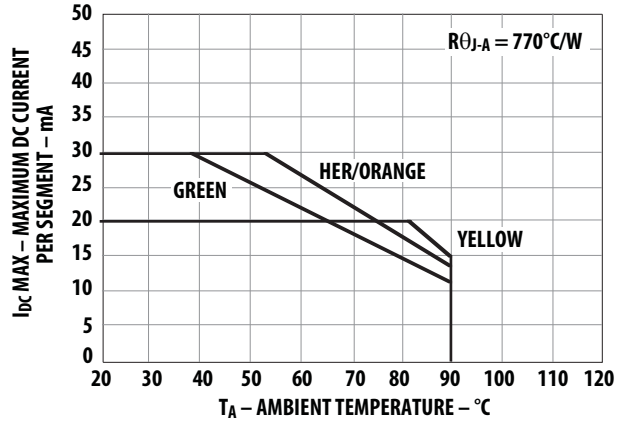

Figure 8. Maximum Allowable DC Current vs. Ambient Temperature.
4. Derate above 53° C at 0.45 mA/°C (see Figure 8).
6. Derate above 81° C at 0.52 mA/°C (see Figure 8).
8. Derate above 39° C at 0.37 mA/°C (see Figure 8).